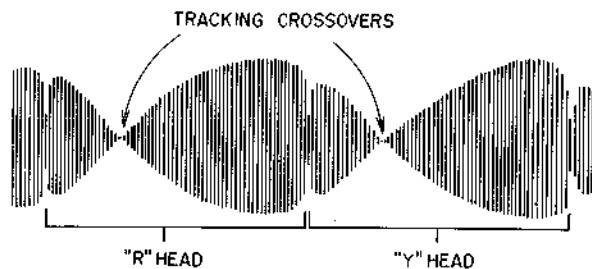
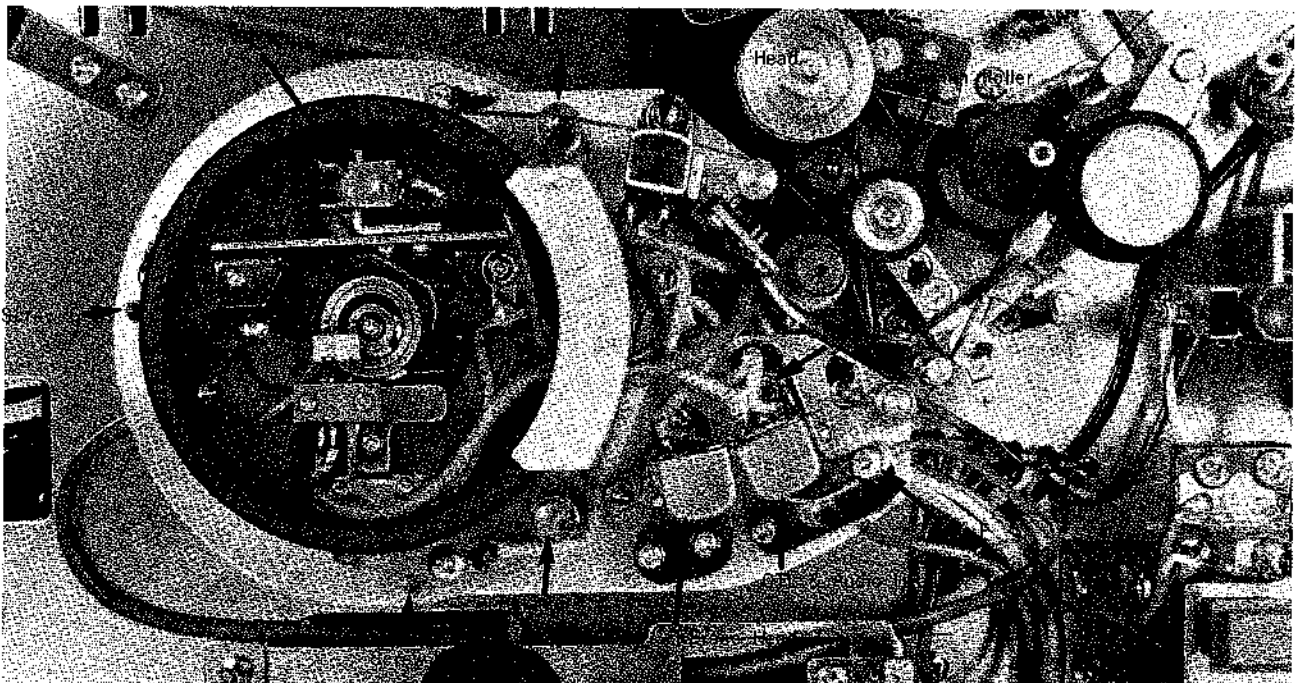

Fig. 12
Fig. 13
- (d) If Tracking Crossover appears on RF Envelope as shown in Fig. 12, adjust height of Tape Guides 'A' and 'B' (Refer to Fig. 13).
- (g) If R.F. Envelope amplitude fluctuation still exists even after the above adjustments have been carefully completed, loosen Video Head Assembly Holding Screw and turn Screws 'G' and 'H' clockwise 1/2 or 1 turn (Fig. 13). At this condition, again carry out adjustment described in Item (f) above.